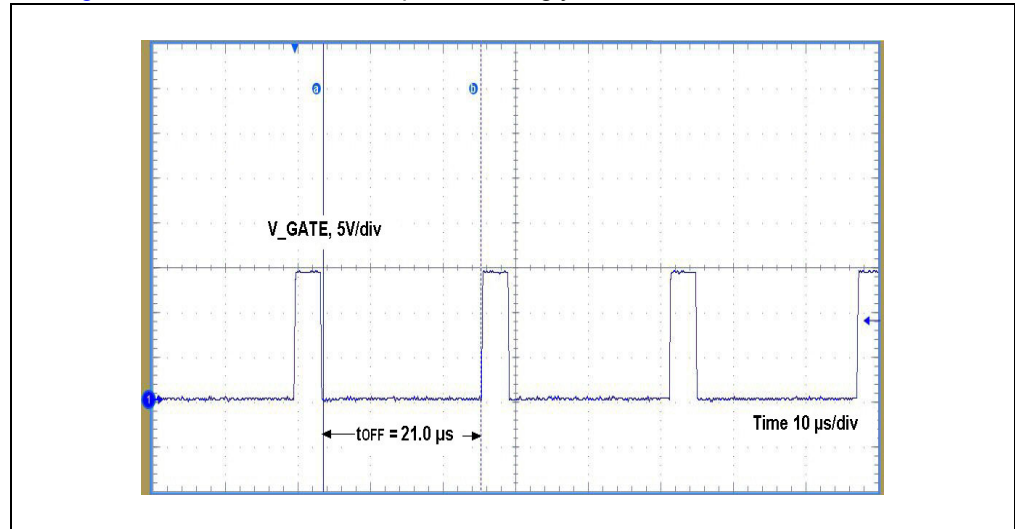

FIGURE 4-3: MCP1012 V_GATE Voltage, t_{OFF} Interval.
- Check on the oscilloscope screen the V_GATE voltage, as it is presented in the Figure 4-3. Set the oscilloscope accordingly.